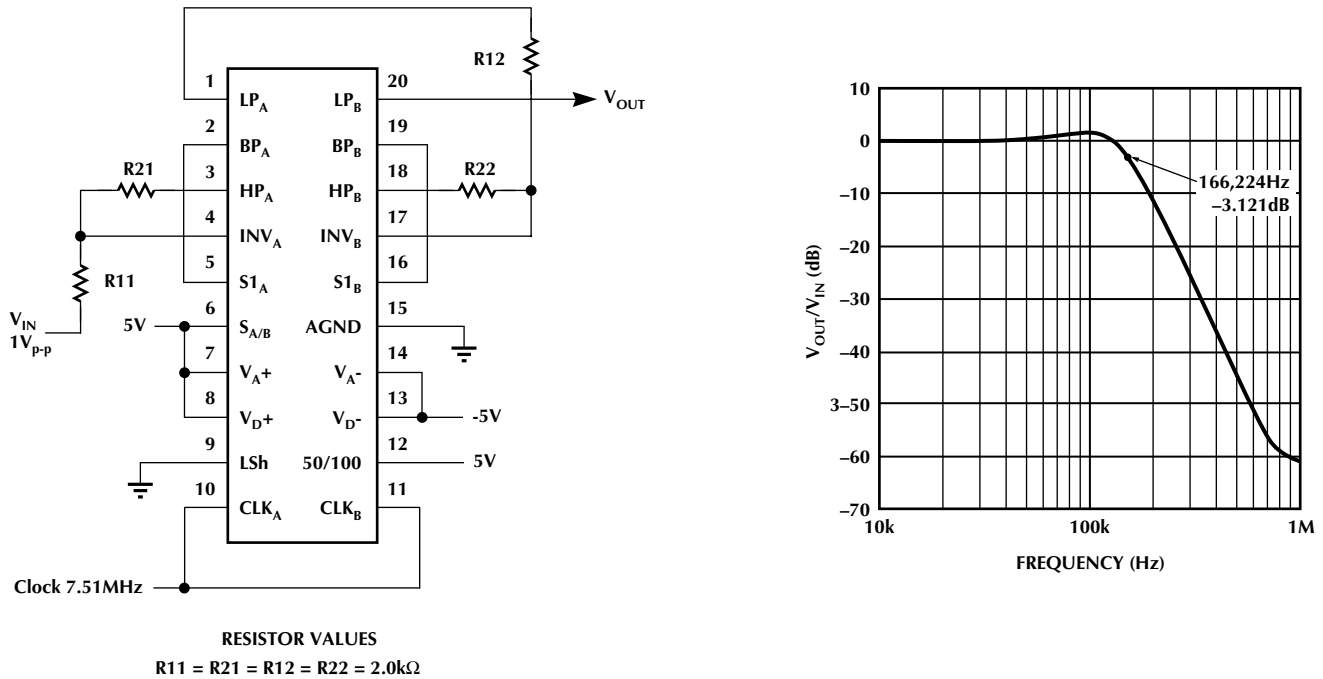

Figure 33. Cascading Two Sections in Mode 1d, Each with $Q=1$, (Independent of Resistor Ratios) to Create a Sharper 4th Order Lowpass Filter.
Figure 33 uses mode 1d of a 4th order filter where each section has a Q of 1, independent of resistor ratios. In this mode, the input amplifier is outside the damping (Q) loop. Therefore, its finite bandwidth does not degrade the response at high frequency. This allows the amplifier to be used as an anti-aliasing and continuous smoothing filter by placing a capacitor across R2.